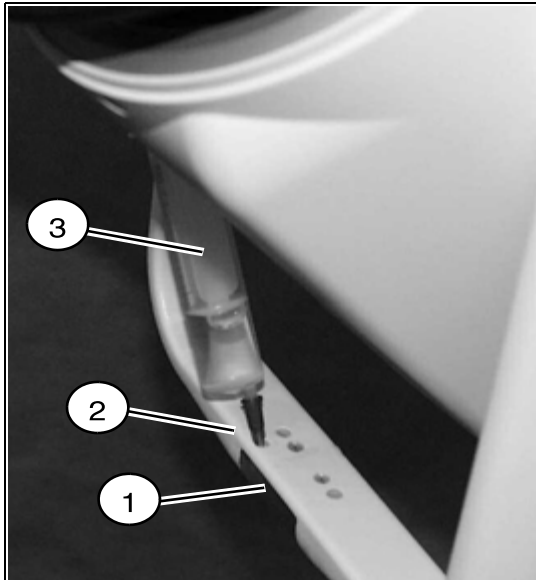

Fig. 81: Phantom 2
- Check whether the isocenter phantom (1/Fig. 81 / p. 78) is filled with water. If not, remove the screw (2/Fig. 81 / p. 78) and fill in water with a syringe (3/Fig. 81 / p. 78).